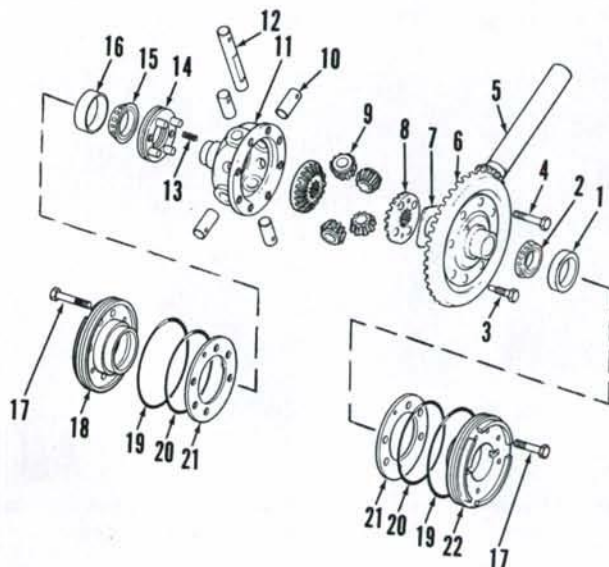
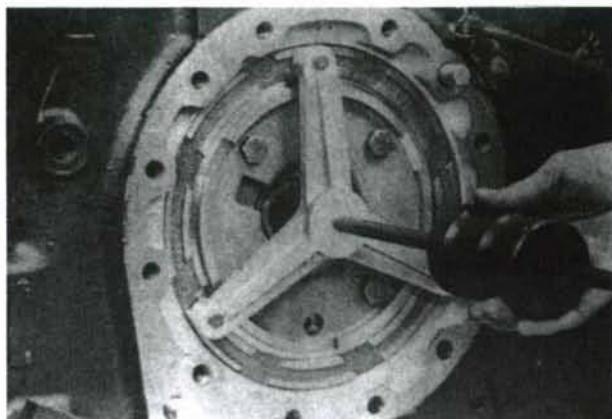
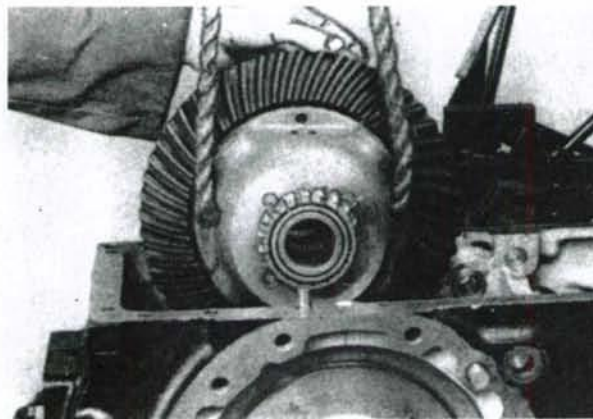
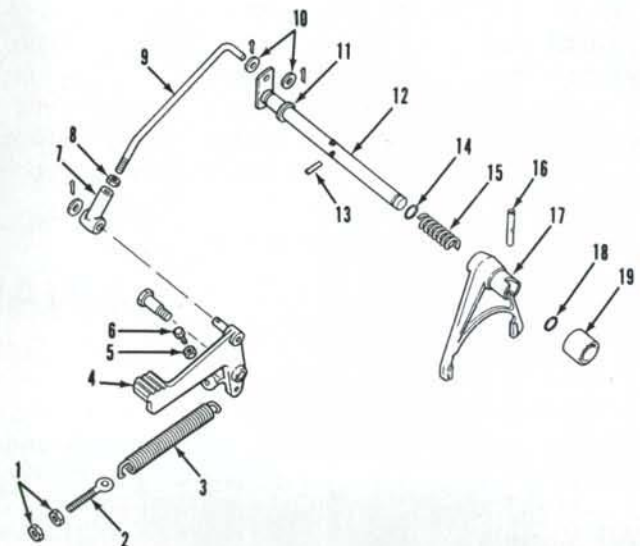

Fig. 132—Exploded view of differential assembly.
Fig. 131—Use special tool IH7847A and slide hammer to remove brake pistons.
Fig. 133—Use a rope sling and hoist to remove differential assembly.
Fig. 134—Exploded view of the differential lock.
The differential assembly for Models 385 and 485 has two pinions (9—Fig. 131) with a single cross shaft (12). Models 585, 685 and 885 have four pinions (9) and four stud shafts (10). The differential lock (14) is on the right side of all models.
drives as in paragraph 118. Disconnect and remove bevel pinion and ring gear lubrication tube. Disconnect and remove differential lock shaft and fork. On models so equipped, disconnect and remove heavy duty park brake cam pivot and brake band hanger support. On all models, remove inner brake ring from each side. Refer to Fig. 131 and using special tool IH 7847A and a slide hammer, pull out brake pistons. Install a rope through differential carrier for a sling and attach it to a hoist. Support differential with the hoist and unbolt and remove bearing housings (18 and 22—Fig. 132) and shims (21). Identify and keep shims with their relevant bearing housing. Remove differential and heavy duty park brake band, if so equipped. See Fig. 133. Slip off the brake band.
Remove bolts (3 and 4—Fig. 132) and separate bevel ring gear (6) from differential carrier (11). Remove thrust washer (7).
Refer to Fig. 134 for an exploded view of differential lock linkage and to items (13 and 14—Fig. 132) for differential lock.
Overhaul of the differential lock is obvious after examination of the unit. To adjust the linkage, refer to Fig. 134 and disconnect link (9). Rotate shaft and lever (12) forward until fork (17) is fully bottomed on actuating pin (16). At this time differential lock should be fully engaged. Rotate lever and shaft (12) rearward until differential lock is fully disengaged. With pedal up, adjust length of adjusting link (9) until link will align with hole in lever. Reconnect link and actuate pedal to see that differential lock will engage and disengage properly. Adjust nuts (1), if necessary, to make sure spring (3) fully raises pedal to disengaged position. Overall length of adjusted spring (3) should be approximately 9 inches (229 mm).